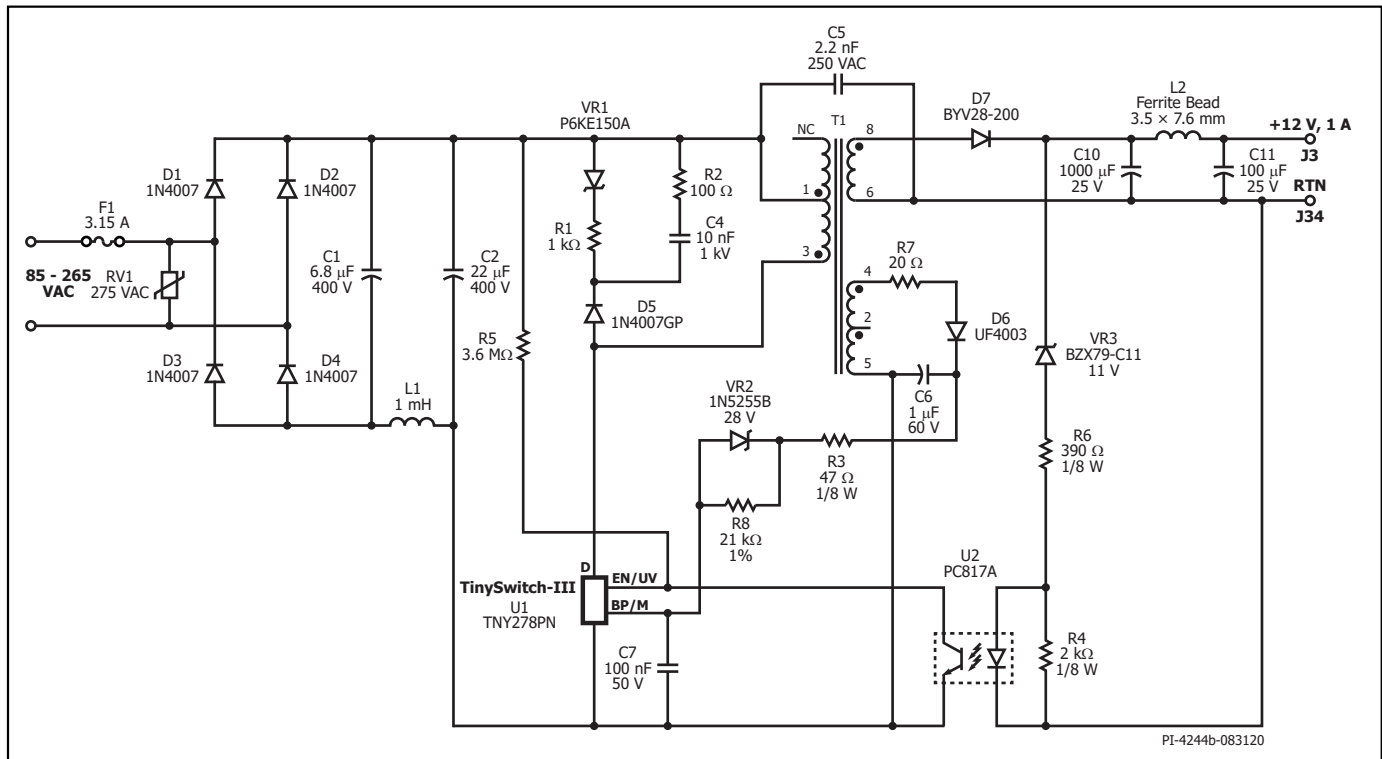
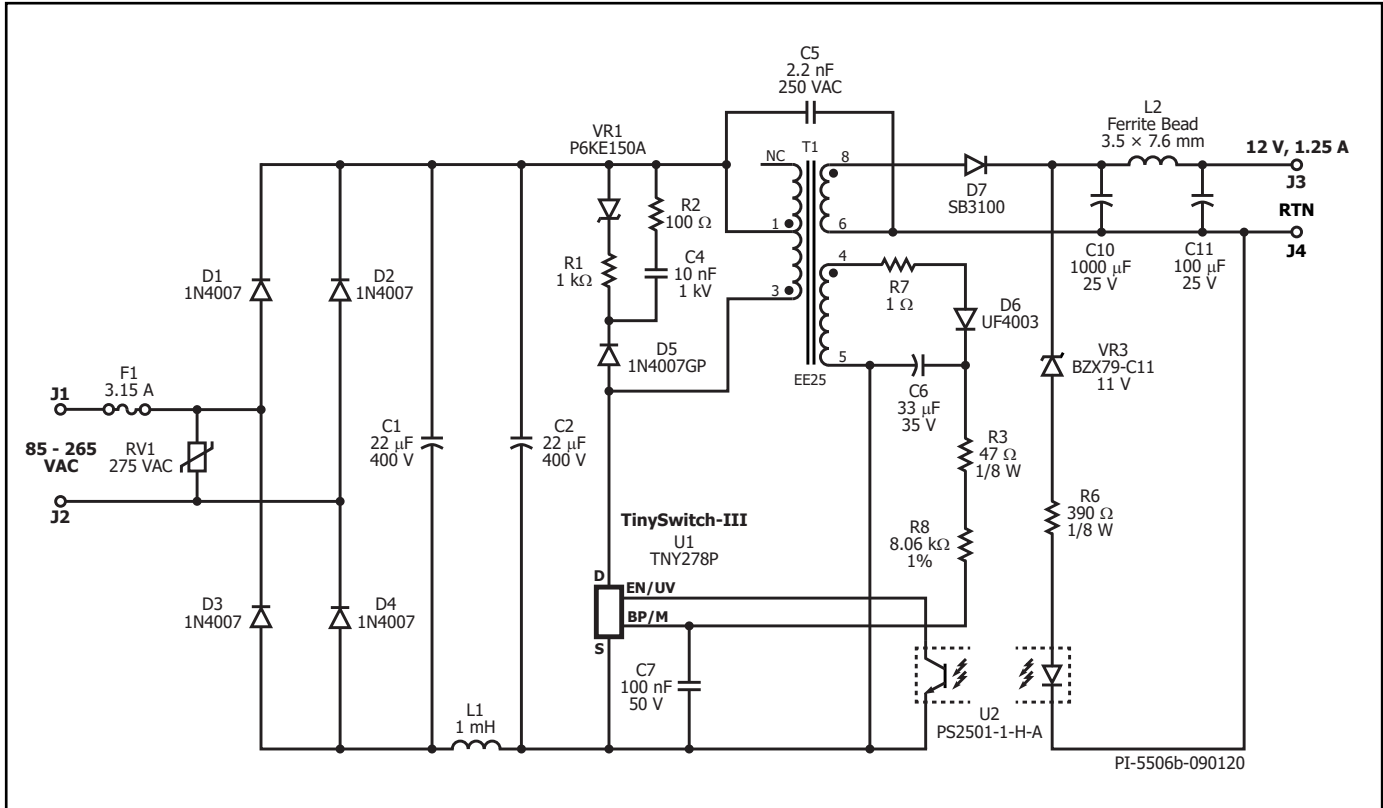

Figure 45. Schematic of EP-91 12 W, 12 V / 1 A Power Supply using TinySwitch-III TNY278P.
Figure 50. Schematic of DER-228 15 W, 12 V / 1.25 A Flyback Power Supply using TinySwitch-III TNY278P.
2. Use a Y capacitor connected from either positive or negative output terminals to the input bulk capacitor's positive terminal. In the design example EP-91 (Schematic, Figure 45) and DER-228 (Figure 50), the traces routing of Y capacitor C5 is connected across the high-voltage primary positive rail and the other end directly to RTN output terminal. Place the Bypass capacitor CBP as close as possible and directly across BYPASS/MULTI-FUNCTION and SOURCE pins. It is not recommended to route the trace of Y capacitor under the transformer especially if the transformer is horizontally oriented to avoid noise to couple magnetically to the trace.
The circuit shown in Figure 45 is a low-cost, high efficiency, flyback power supply designed for 12 V, 1 A output from universal input (85 VAC to 265 VAC) using TNY278P.
The circuit shown in Figure 50 is a low-cost, high efficiency, flyback power supply designed for 12 V, 1.25 A output from universal input (85 VAC to 265 VAC) using TNY278P.